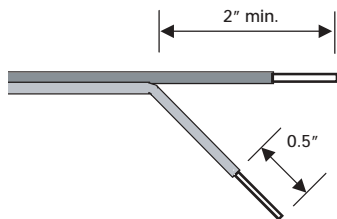

Figure 15
3. Strip 1/2" of insulation from the end of each conductor. (See Figure 15.)